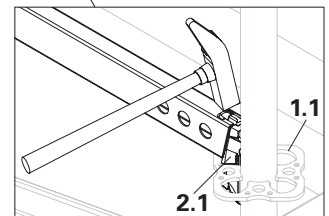

Fig. A1.02a
3. Securely fix all wedges using a hammer. (Fig. A1.02a)
4. Securely fix all wedges using a hammer. (Fig. A1.02a)
3. Attach horizontal ledgers (2) to the rosette on both sides (1.1) using the ledger heads and wedges (2.1). (Fig. A1.02a)
2. Attach horizontal ledgers (2) to the rosette on both sides (1.1) using the ledger heads and wedges (2.1). (Fig. A1.02a)